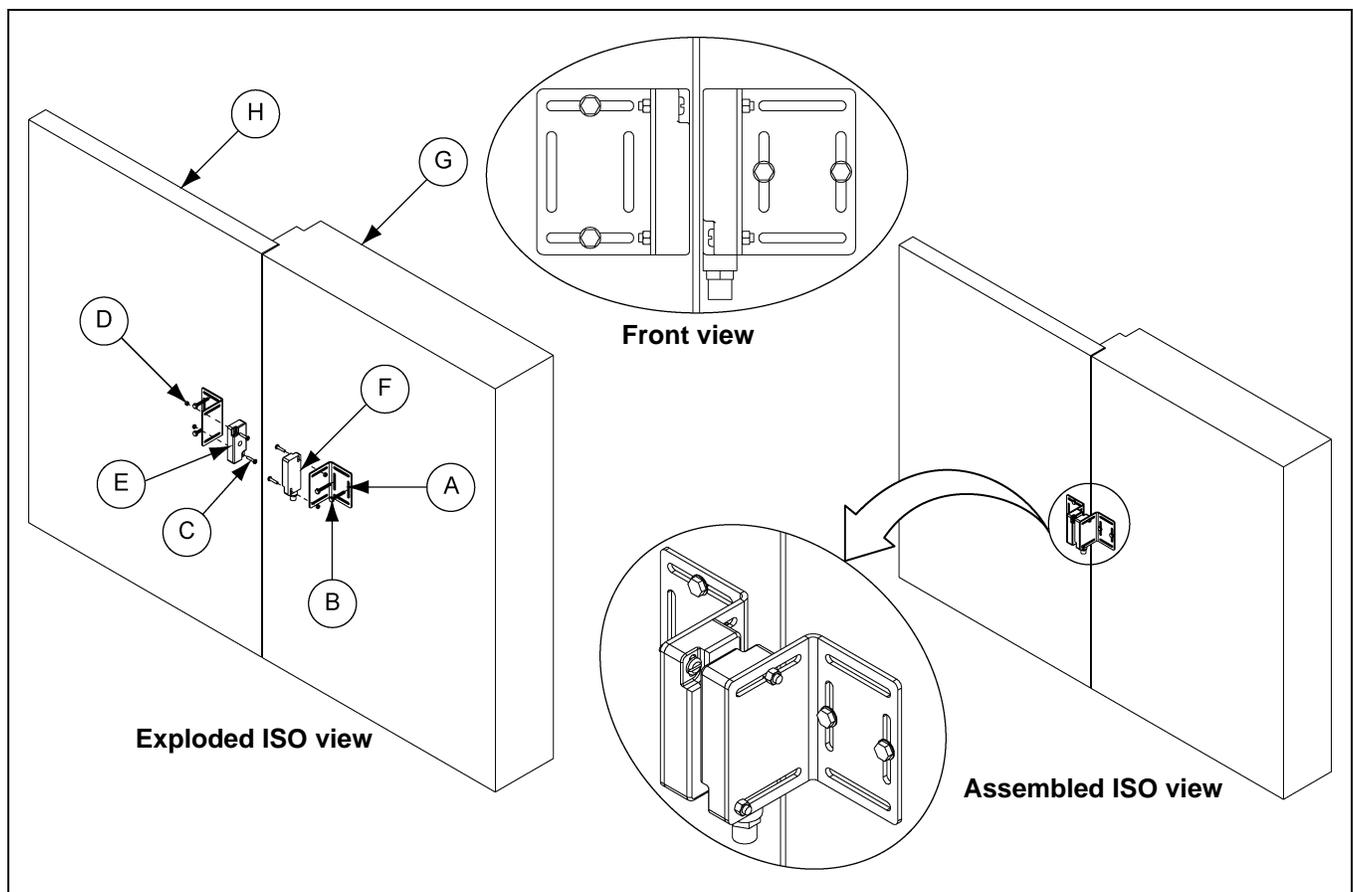

Figure 7B
1. Install one door contact mounting bracket (A) to the door using the horizontal slots.
2. Install one door contact mounting bracket (A) to the door jamb (G) using the vertical slots.
3. Install the moving door contact (E) to the bracket installed on the door.
4. Install the fixed door contact (F) to the bracket installed on the door jamb (G).
5. Use the slots to adjust sensors and brackets as needed to align properly. (See Figure 7B.)